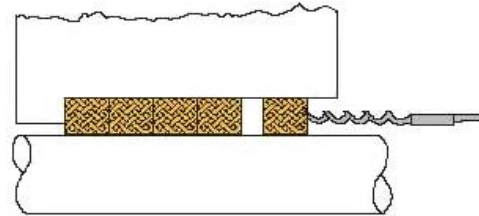

Figure 6. Removing Packing with Hook
5. Refer to Figure 6; remove all old packing rings (013) by using the proper size packing removal hook. The lantern ring (029) will remain on the shaft (006) and should be slid to near the slinger (040).
4. Install gland (017) on shaft (006), slide back towards slinger (040).
5. Install casing (001) to bearing frame (019) with bolt (800C) or adaptor to motor (190) with bolt (*800D).
6. Lubricate outside of shaft sleeve (014) to facilitate mounting of mechanical seal (089). Install mechanical seal rotating elements on shaft sleeve.
7. Coat shaft sleeve (014) bore with DOW 111 and install shaft sleeve over O-ring (119D) onto shaft (006).
8. Slide gland (017) with stationary elements of mechanical seal (089) onto studs (808) and secure finger tight with gland hex nuts (830) and washers (850). As applicable, ensure tap flush lines in gland (017) is positioned so flush lines can be connected.
If your pump is equipped with an enclosed impeller, it may have an optional, replaceable wear rings (007) in the suction cover (009) or backhead (011). If your pump is equipped with the optional wear rings (007), use the following instructions, Table 8 and Figure 6 for wear ring replacement.